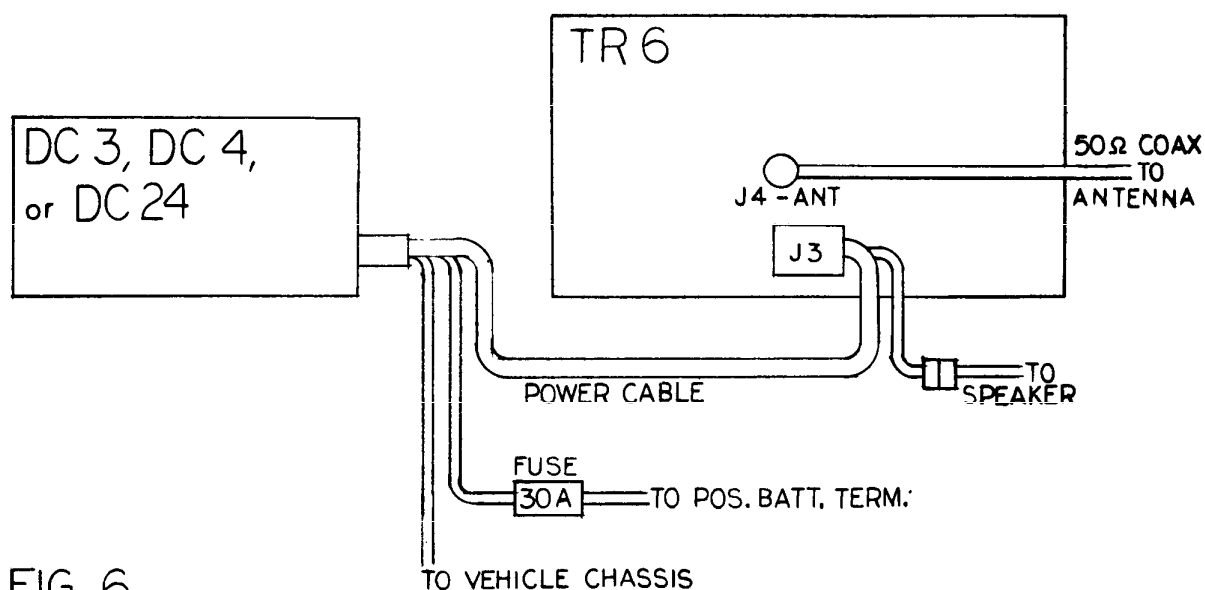

FIG. 6
3. Install a mobile antenna in the manner recommended by the antenna manufacturer and connect the coax lead from it to the SO-239 connector of the TR-6 (see figure 6). The use of a directional RF wattmeter, Drake W-4 or WV-4, is recommended.